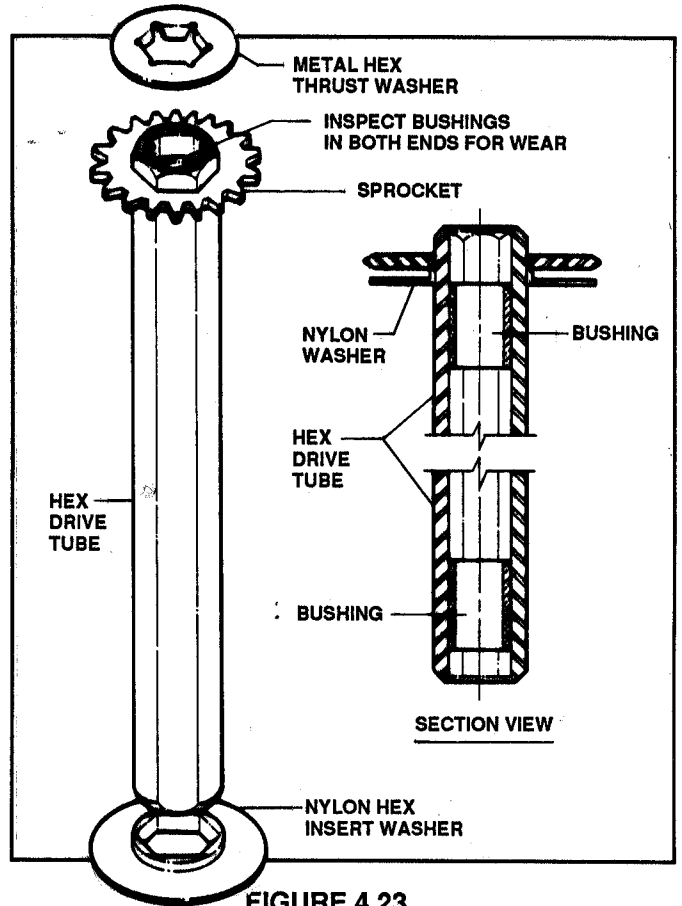

FIGURE 4.23
19. Remove hex washer from top end of hex tube. See Figure 4.23.
21. Inspect bronze bushings in both ends of Hex Drive Tube Assembly. Refer to Figure 4.23.